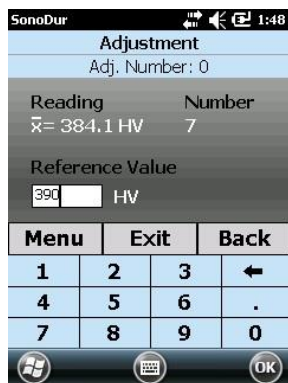

Figure 7.39
- a.) "YES": The determined average value will be immediately indicated in the "Reading" (measurement value) field as well as in the "Reference Value" (nominal value) field. The desired reference hardness value can now be entered here via the keyboard (Figure 7.39).